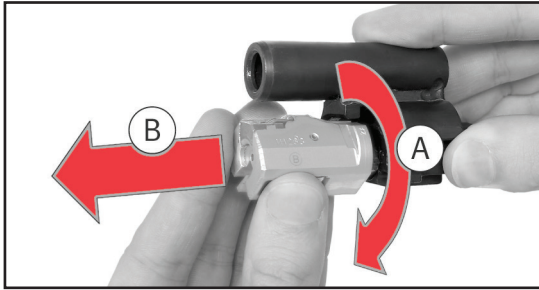

Fig. 37 – Remove the bolt head
2. Turn the bolt head and locking piece clockwise (Fig. 37-A)
3. Remove the bolt head and locking piece from bolt carrier by bringing in forward (Fig. 37-B)